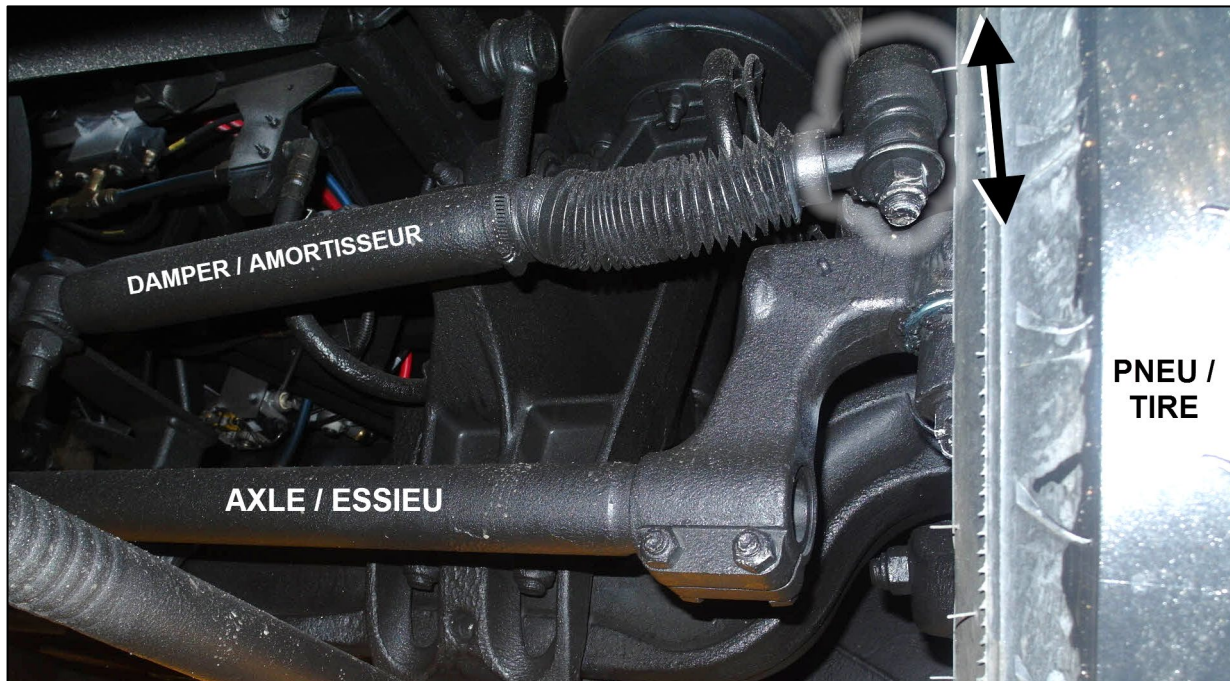

Figure 1
2. On front axle the left wheel, locate the steering damper spherical end.(Fig. 1)
3. Make sure there is no vertical play. (Fig. 1)